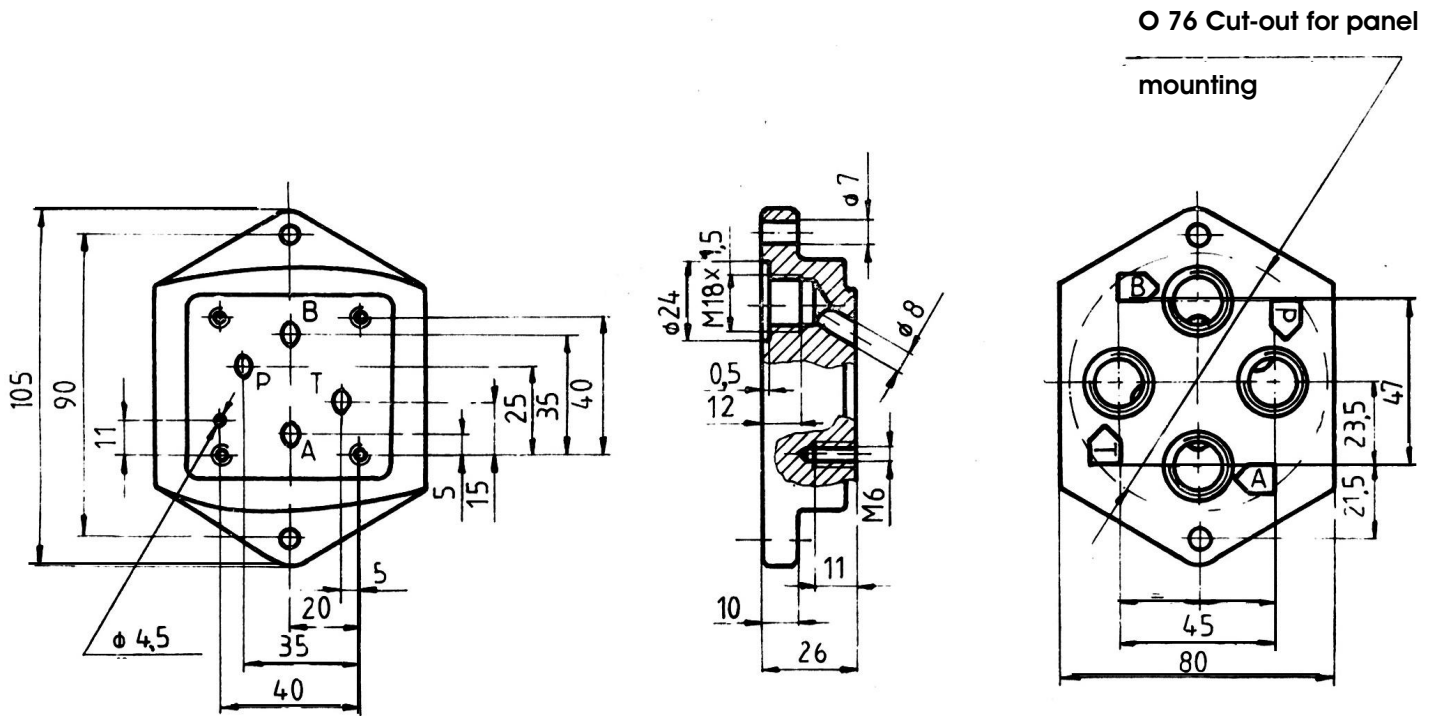

Fig. 6
- connection diagram, conforming to fig.6, 7